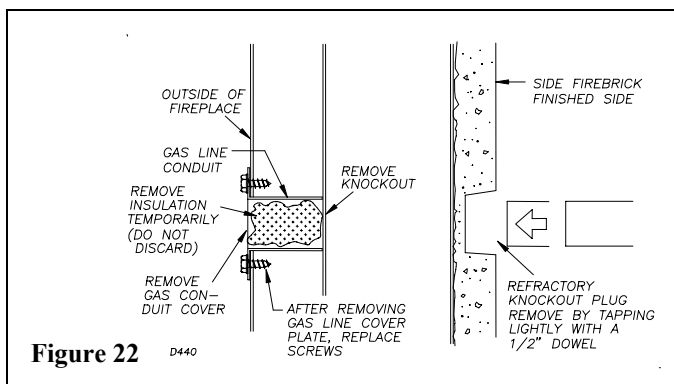

Figure 22 D440
STEP 1: To install, remove the knockout indentation on the refractory, (or firebrick), wall located approximately 2 inches above the refractory hearth floor. The knockout indentation must be firmly tapped with any solid object until it is released. Remove fragmented portions of refractory (see figure 22).